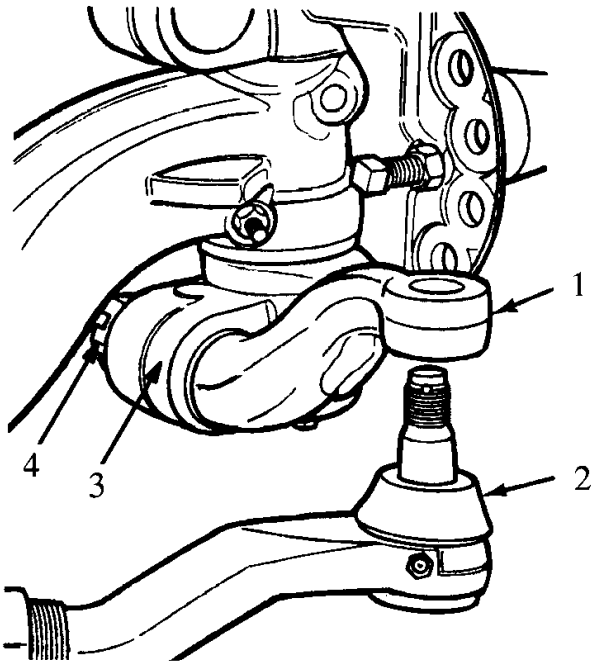

Figure 7 Separate Tie Rod End From Tie Rod Arm
2. Install the tie rod steering arm in the knuckle (Figure 7).